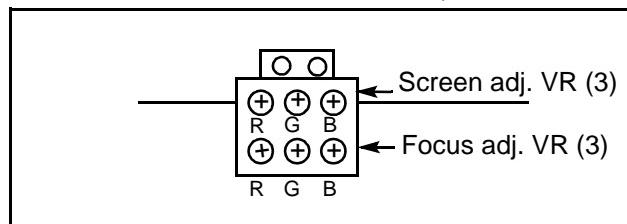

Figure 30. Focus Pack
4. Adjust the red, blue and green focus VR on the focus block for best focus of overall picture of each CRT. (Figure 30)